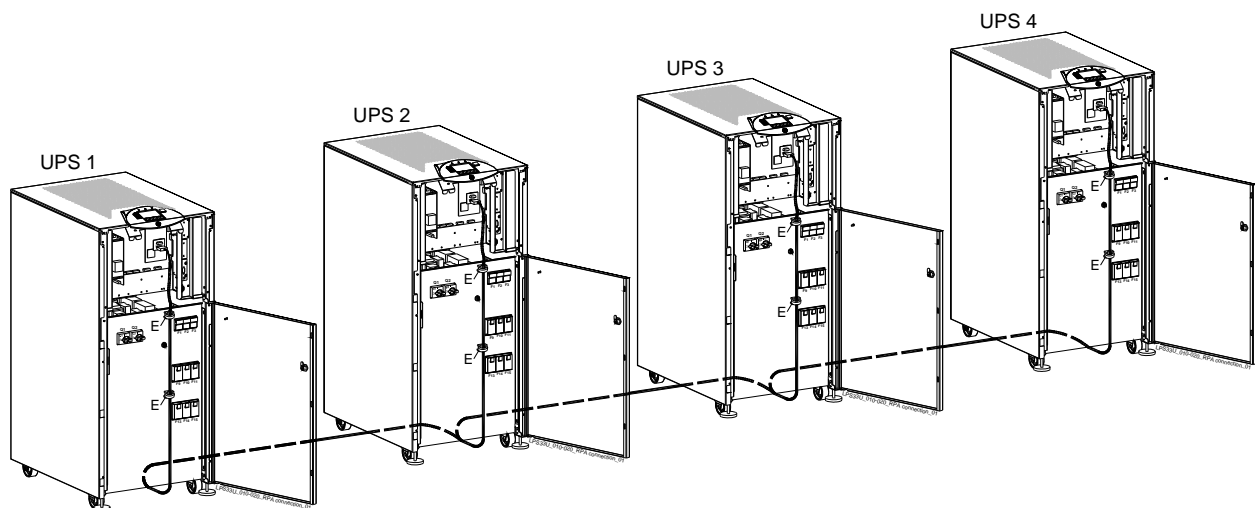

Fig. 3.9.5-4 Control bus location RPA parallel system
Connect the control bus cable between the parallel units as indicated in the diagram Fig. 3.9.5-2. Provide that the connectors **J3** and **J4** are properly fixed with the included screws.
Place the cables and connect them as indicated in the diagram Fig. 3.9.5-4 following these procedures:
- Put in place the front screens “B, C and D” (Fig. 3.9.5-1) paying attention to not damaging the control bus cables.